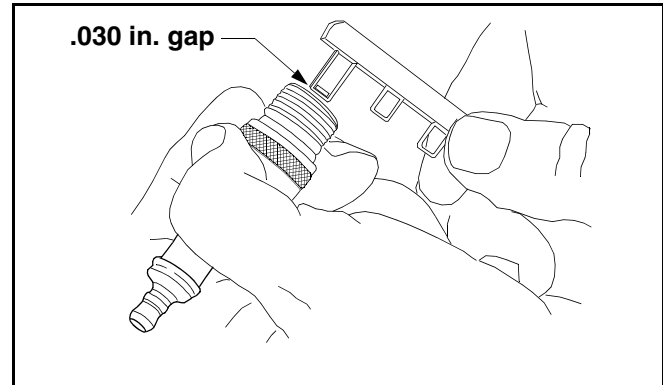

Figure 18
- Check the gap using a feeler gauge and adjust, if necessary, by carefully bending the ground electrode. See Figure 18. Set the spark plug gap to .030 in. (.76 mm).